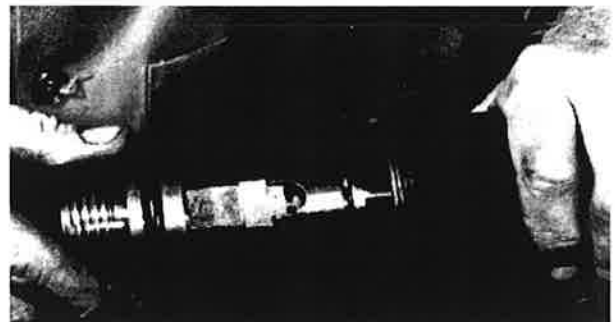
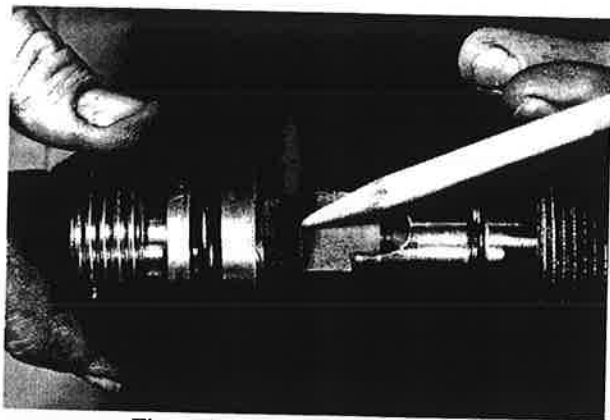

Figure 44. Attach Plug to Holder
Figure 45. Position Plug on Holder
- D. Attach plug to plug holder. See Figure 44. Retainer balls in holder should snap into groove in plug. Do not let plug holder bottom-out in plug. There should be about 1/4" between top of plug and plug holder shoulder as shown in Figure 45. This allows for slight movement of holder inside of plug, as the plug is rotated to align with fitting threads.